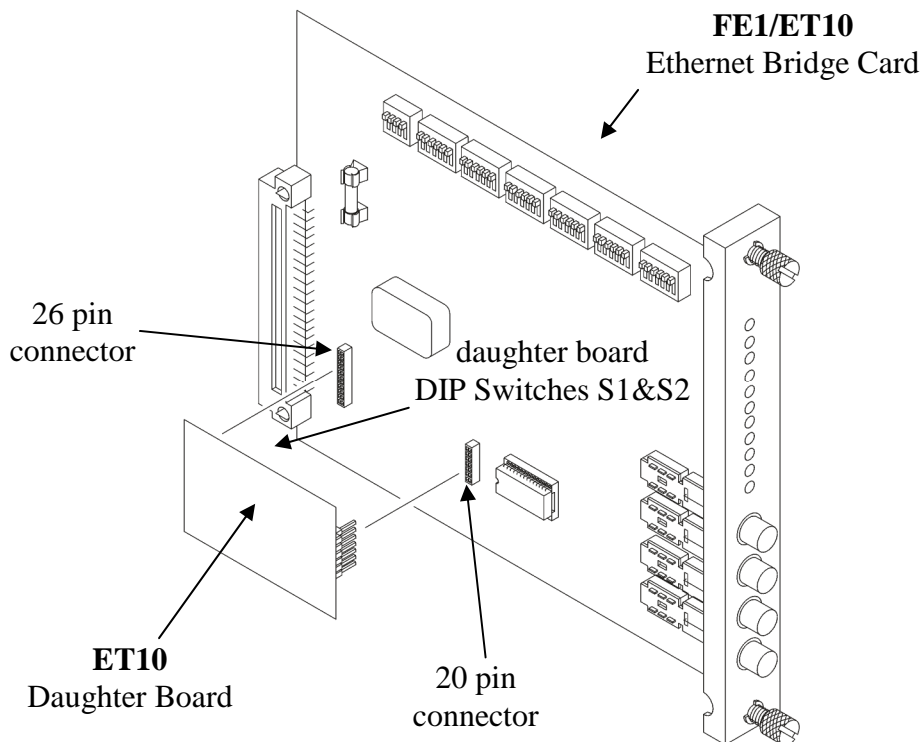

Figure 3-4 : ET10 Daughter Board Removal/Replacement
When the **G703/64-RM** is ordered with an **ERM01/ET10** option, an **FE1/ET10** card and HDB26 to RJ-45 adapter are supplied and assembled according to the following table. The **FE1/ET10** Card includes an additional "daughter" board to handle the Ethernet interface and Bridging functions. This board has two (2) DIP switches which may only be accessed by removing the daughter board. (Refer to Figure 3-4.) Pull the board straight out and avoid bending the pins. After setting, press the daughter board back onto the **G703/64 Card**, closely observing the 20 and 26 pin connectors.